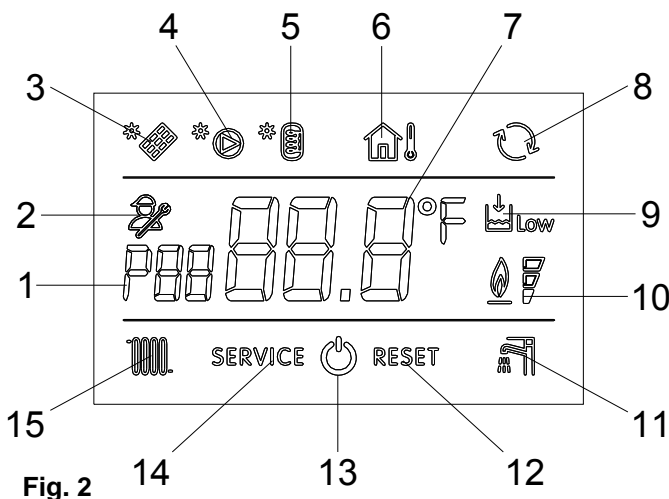

Fig. 2
- Check the water pressure in the central heating circuit. The reading on the pressure gauge **M** (see fig. 2), located on the lower part of the boiler, must not be less than 1,2 bar.